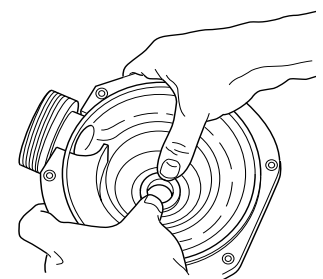

Figure 17
3. Press stationary half of seal into seal plate (Key No. 9) using finger pressure only (see Figure 17).